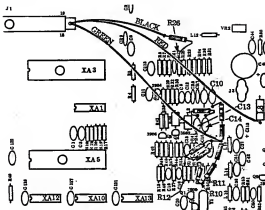

Figure 3. Retrofit Diagram.
5. Using Figure 3 as a reference perform the followings: